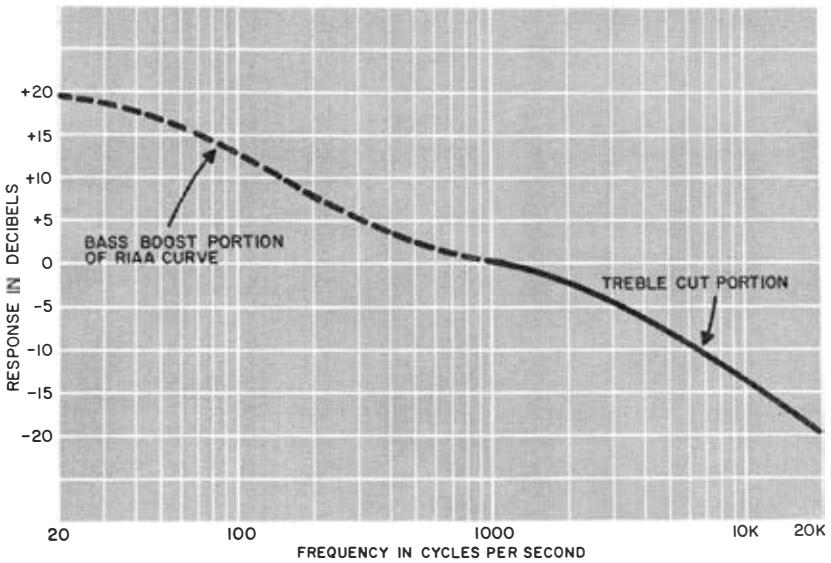

Fig. 707. RIAA phono playback equalization.
by the RIAA curve (Fig. 707). The circuit is a relatively simple one, and accurate treble cut is essentially a matter of how much care the preamp manufacturer has taken to use resistors and capacitors that are (1) close to design value and (2) of a quality that resists significant change in value with age and use.